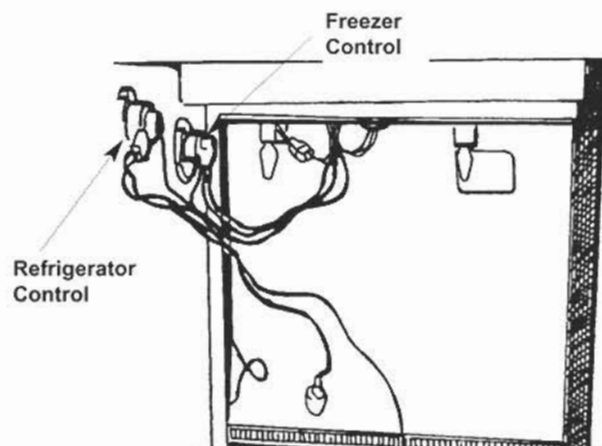

Figure 2-58. Controls Location and Routing
- Freezer Control** - The freezer control cap tube is routed to the back of the freezer, through a plastic tube from the refrigerator to the freezer area (Figures 2-58 & 2-59). Straighten the control bulb and pull back through. When reinstalling, push the bulb through the tube, then coil the excess bulb at the outlet.